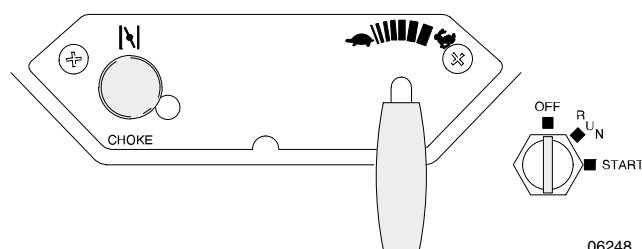

Fig. 7
2. Set RoadLazer engine ignition key to OFF. Fig. 7.
8. Turn key. Fig. 7.